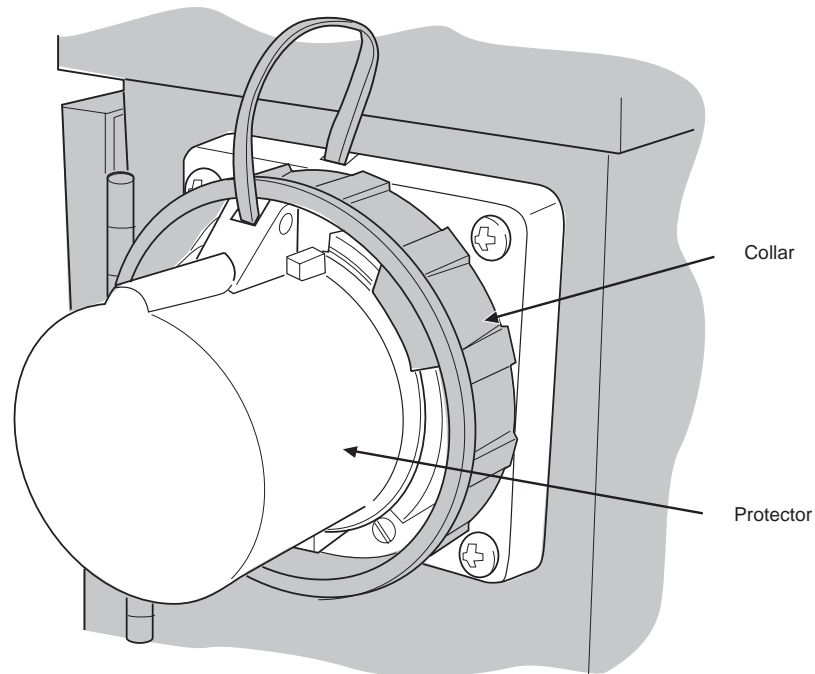

Figure 52. Receptacle Protector
- 5 Install the protector on the receptacle. Rotate the collar behind the protector as necessary to secure the protector as shown in Figure 52.